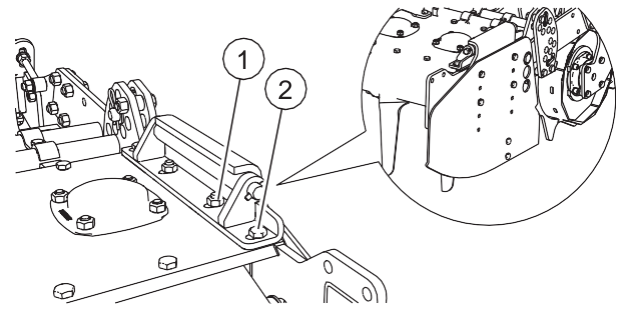

FIG. 28
- Lossa skruvarna (2, "fig. 28").
- Lossa muttrarna (1).